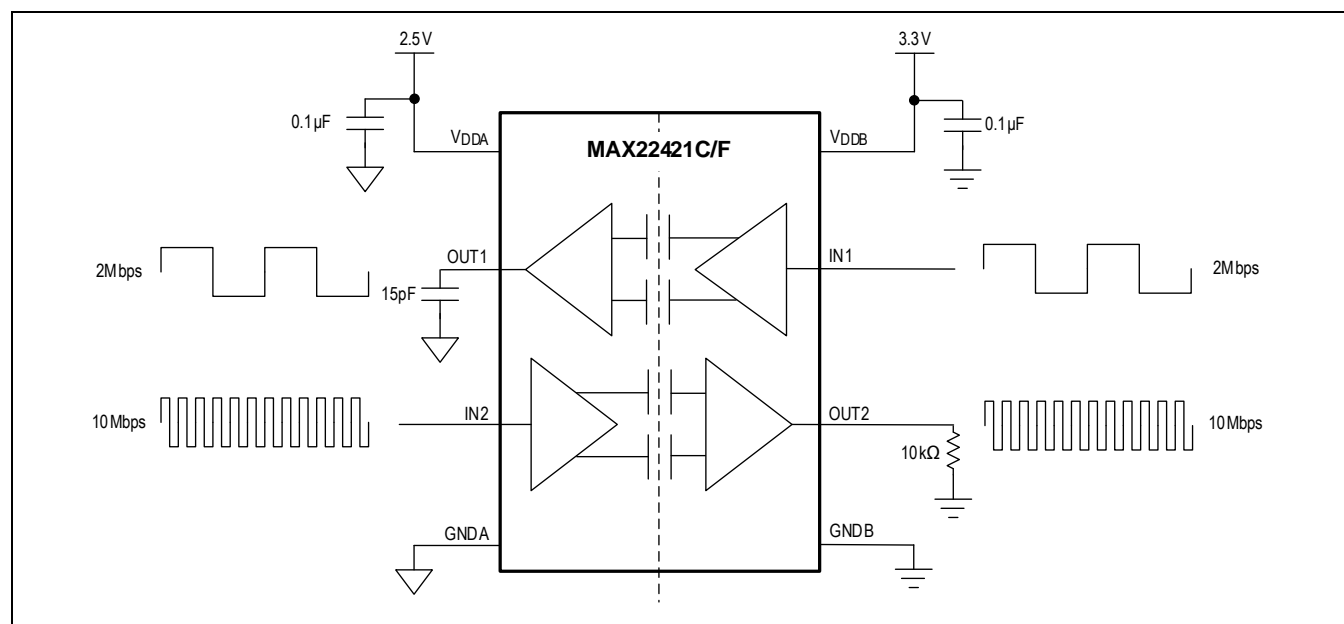

Figure 11. Example Circuit for Supply Current Calculation
**Example** (shown in Figure 11): A MAX22421C is operating with  $V_{DDA} = 2.5V$ ,  $V_{ddb} = 3.3V$ , channel 1 operating at 2Mbps with a 15pF capacitive load, and channel 2 operating at 10Mbps with a 10k $\Omega$  resistive load. See Table 5 and Table 6 for  $V_{DDA}$  and  $V_{ddb}$  supply-current calculation worksheets.